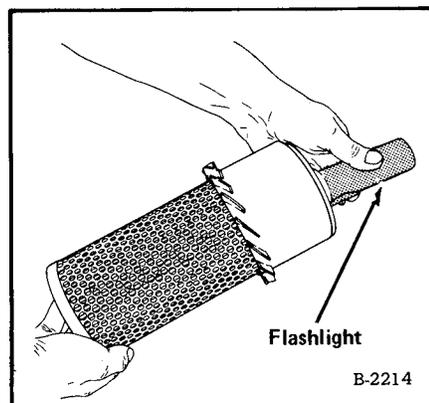

Fig. 1-8 Checking Element with Flashlight
- (1) Remove dust cup and clean each day.
- (2) Make replacement of element only when necessary. To check for need of replacement, hold an illuminated flashlight inside the element. If light can not be seen through element or if element has holes in it, replacement is necessary (Fig. 1-8).